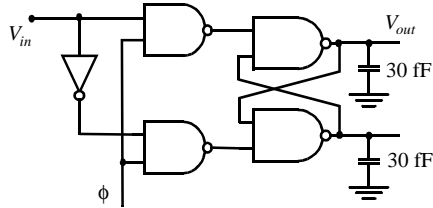

Figure 0.12 Simple synchronizer
11. Figure 0.12 shows a simple synchronizer. Assume that the asynchronous input switches at a rate of approximately 10 MHz and that $t_r = 2$ nsec, $f_\phi = 50$ MHz, $V_{IH} - V_{IL} = 0.5$ V, and $V_{DD} = 2.5$ V.